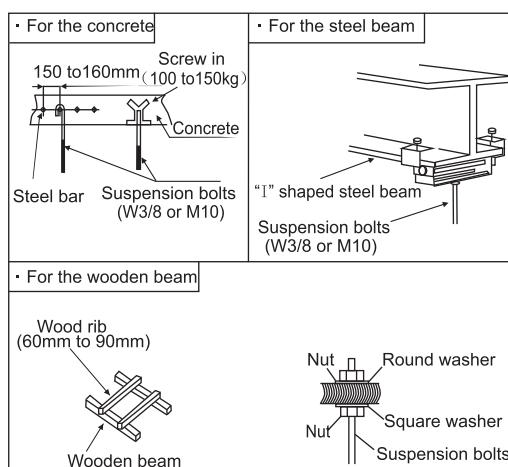

Fig. 3.3.1 Fixing the suspension bolts
- (1) Consider the pipe direction, wiring and maintenance access carefully, and choose the proper direction and location for installation.
- (2) Install the suspension bolts as shown in Fig. 3.3.1 below.